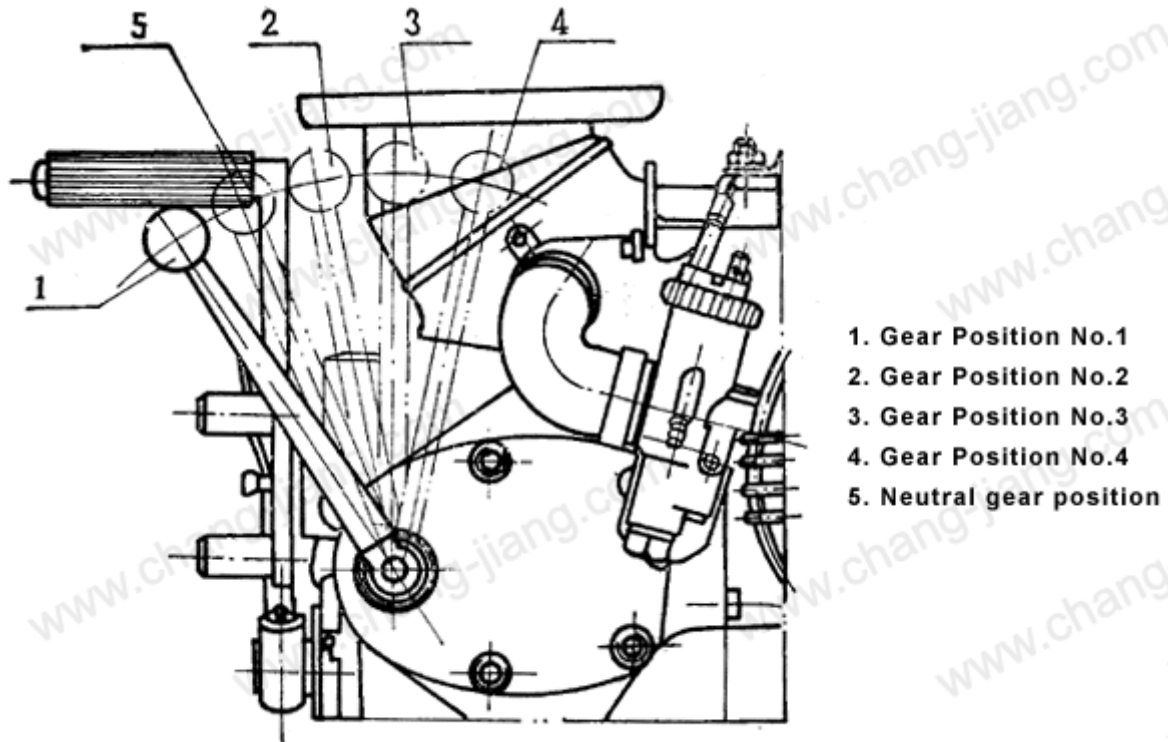

Fig.4 Positions of Hand Gear Shift Lever
3.2.2 Set the hand gear shift lever or foot gear shift lever to neutral gear position between gear positions No.1 and No.2 (see Figs 4 and 5). Check to see whether the gear lever is at neutral position by stepping lightly the kickstarter . If the wheels wouldn't move, the neutral gear position is properly set. If the wheels trend to move forward, the neutral gear position is not properly set. 'I'hen it should be reset. The engine can be started only when the neutral gear position is properly set.
3.2.8 Press down the kickstarter slightly by foot to make the brake block insert into the ratchet wheel of the starting gear (No idle travel is felt). Then starting can be realized by stepping the kickstarter forcefully. If starting motor is used, first set the levers to neutral position. (see Figs 4 and 5), or hold the clutch lever with left hand to disengage the clutch. Press the starting button with right hand (each press should not take more than 3 seconds. Interval between two presses should not be less than 2 seconds. Restarting should be done one minute later after three successive presses).